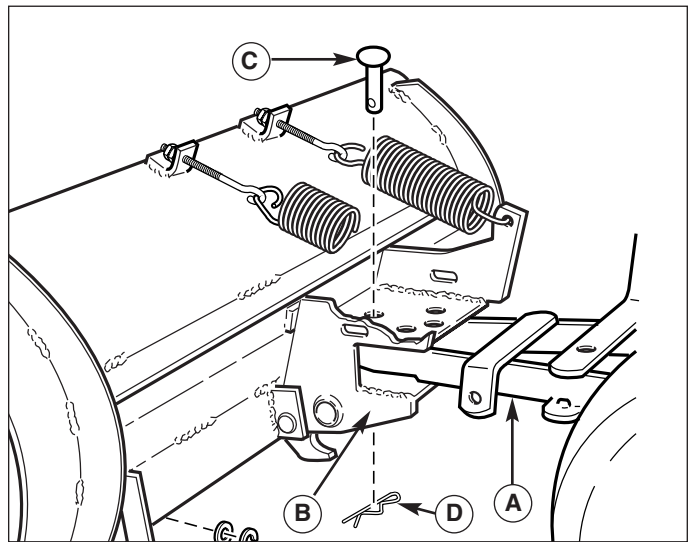

Figure 10. Dozer Blade Assembled and Installed
1. Insert the front of the pivot hitch (A, Figure 10) into pivot frame (B) on rear of blade. Then install pivot pin (C) down thru front holes in blade and push bar. Secure the pivot pin (C) with a spring clip (D).